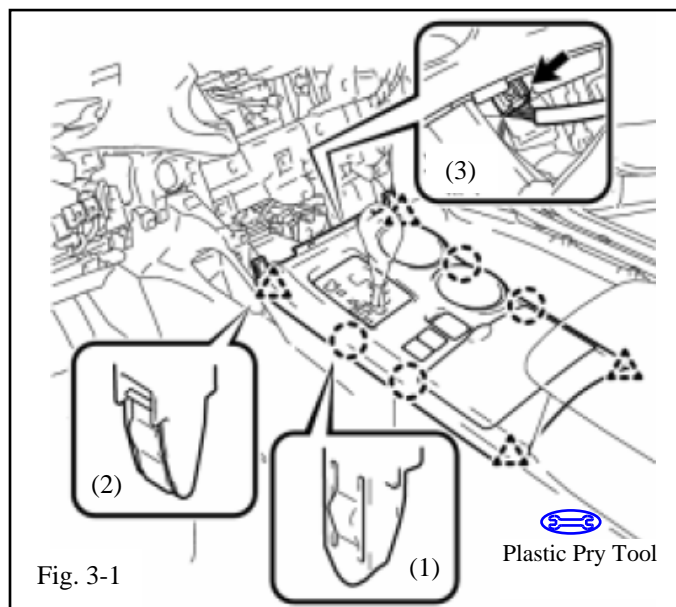

Fig. 3-1
- (a) Using a plastic pry tool, disengage the four claws (1) and four clips (2). (Fig. 3-1)
- (b) Disconnect the connector (3) from the underside and remove the Upper Console Panel Sub-Assembly. (Fig. 3-1)